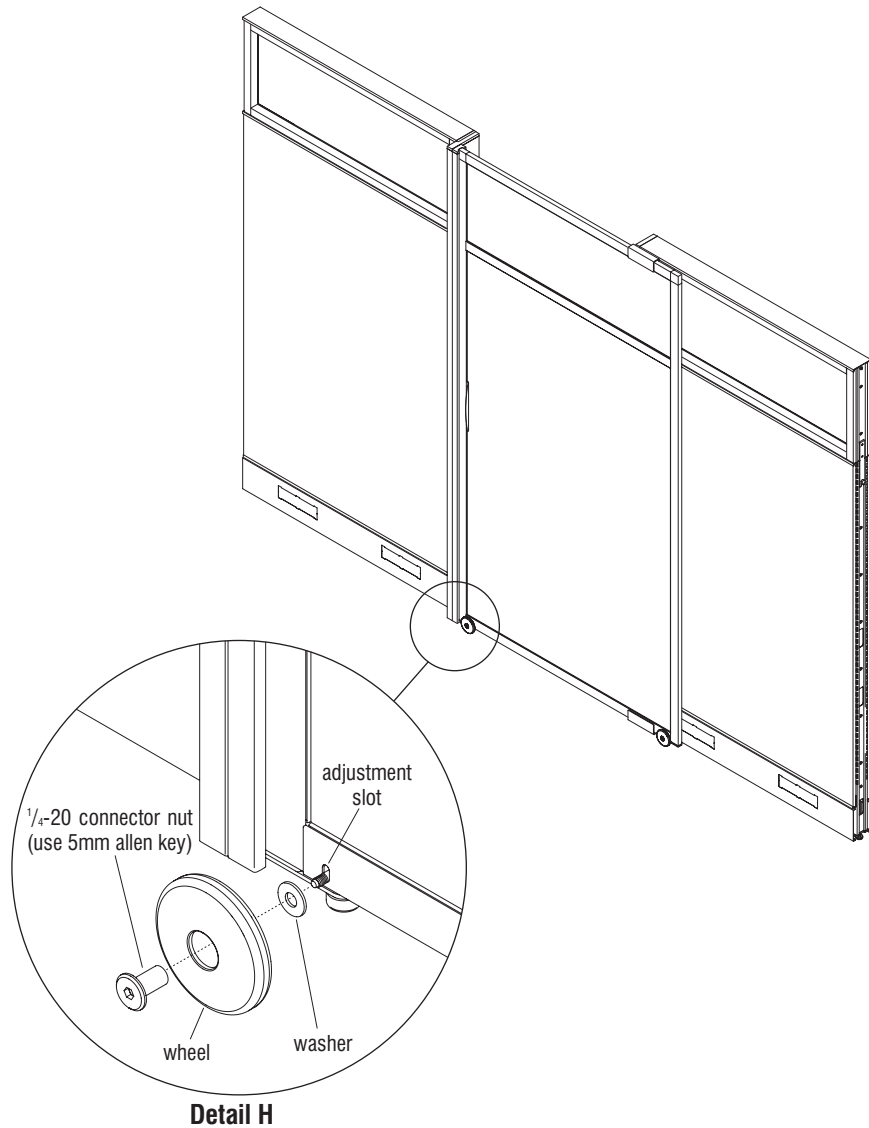

Figure 12
6. Check "plumb" of the door to the jamb rail by rolling the door closed, then confirm that the door contacts the jamb rail in a square and even manner. If necessary, adjust the door angle by loosening **(DO NOT REMOVE)** one or both wheels and moving the wheel(s) up or down in the adjustment slot, then re-tightening in the new position. Wheel assembly is shown in detail below for reference (Figure 12, Detail H).